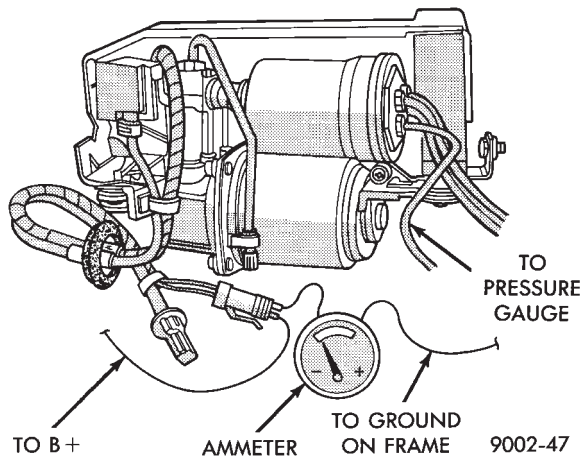

Fig. 9 Compressor Current Draw Test
(4) Connect an ammeter in series between the red wire terminal on compressor connector and a 12 volt power source. Also, connect a ground wire from the black wire terminal on the compressor connector to a good ground on the frame (Fig. 9)
(5) If the current draw to the compressor motor exceeds 30 amperes, replace the compressor assembly.